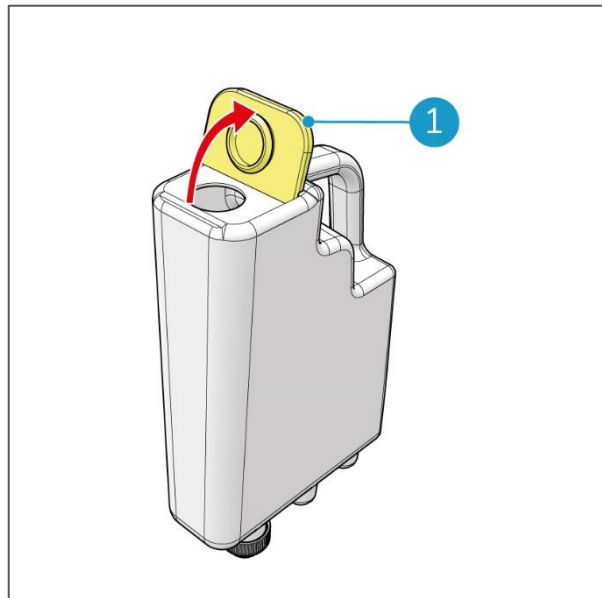

Figure 18
2. Open the yellow filler cap (Figure 18, pos 1).